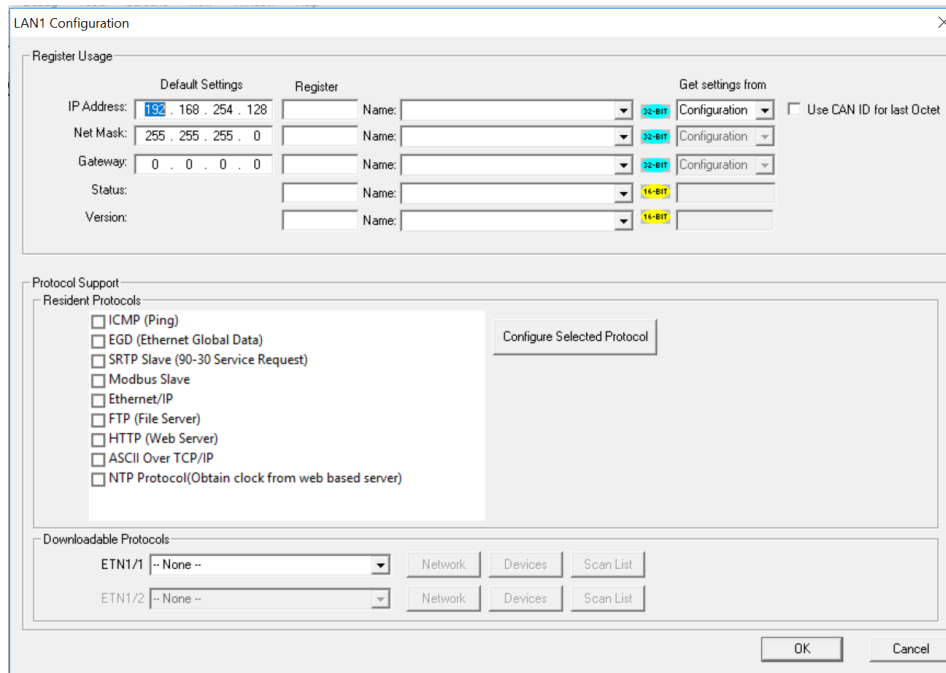

Figure 12.2 - Ethernet Module Configuration
3. Click the **Config** button to the right of the LAN1 for LAN 1 or LAN2 for LAN 2, revealing the Ethernet Module Configuration dialog as shown in figure as shown in Figure 12.2.